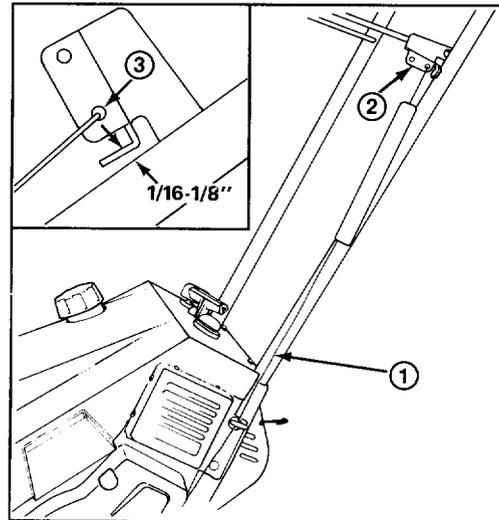

Figure 9
ADJUSTING CONTROL BAR (Figs. 9 & 10)
2. CHECK ADJUSTMENT (Fig. 9)—Move control bar back toward handle until slack in cable is removed. Gap between control bar bracket and handle should be approximately 1/16"–1/8". If cable is too loose or too tight, proceed to step 3 for adjustment procedure.